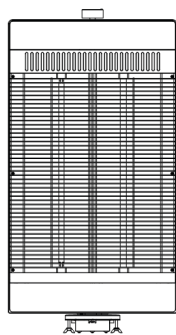

FIG. 1
1. Remove the stove body from the box and the plastic bag (Figure 1).